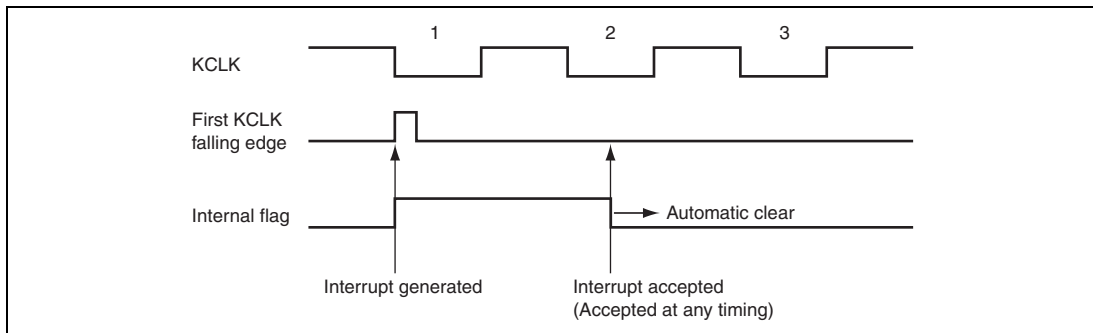

**Figure 18.18 Internal Flag of First KCLK Falling Interrupt in Software Standby Mode and Watch Mode**
- KCLK is input directly to the interrupt control block, not through the PS2, in software standby mode and watch mode, and then an interrupt is generated by detection of a falling edge. Therefore, the KCIF flag is not set. In this case, a flag that is in the interrupt control block is set. The internal flag is automatically cleared after an interrupt request is sent to the CPU. Figure 18.18 shows setting and clearing timing.